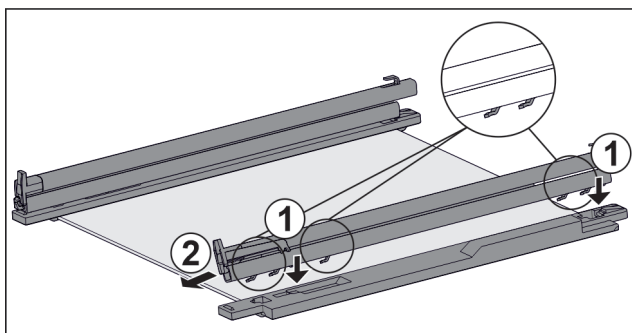

Fig. 38 Glass shelf with rails and retaining parts
- ▶ Place rail hooks onto the openings of the **left** retaining part. Fig. 38 (1)
- ▶ Push rail forwards. Fig. 38 (2)
- ▶ Place rail hooks onto the openings of the **right** retaining part. Fig. 38 (1)